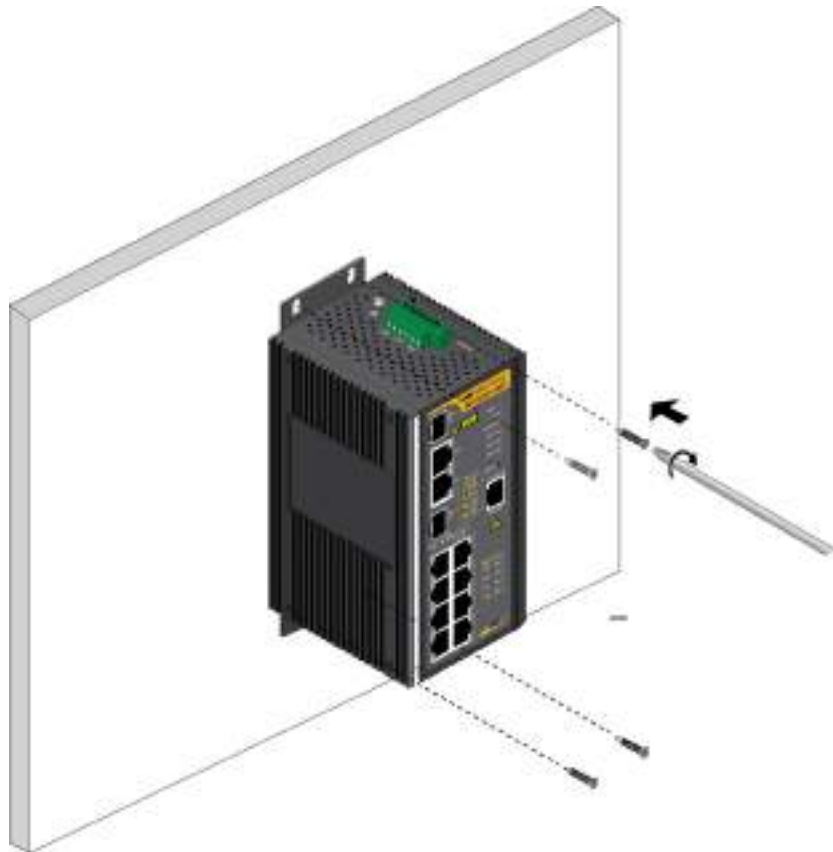

Figure 27. Install Switch Using Wall Brackets
6. Hold the switch at the selected location while you secure it with four screws (not provided). Refer to Figure 27.